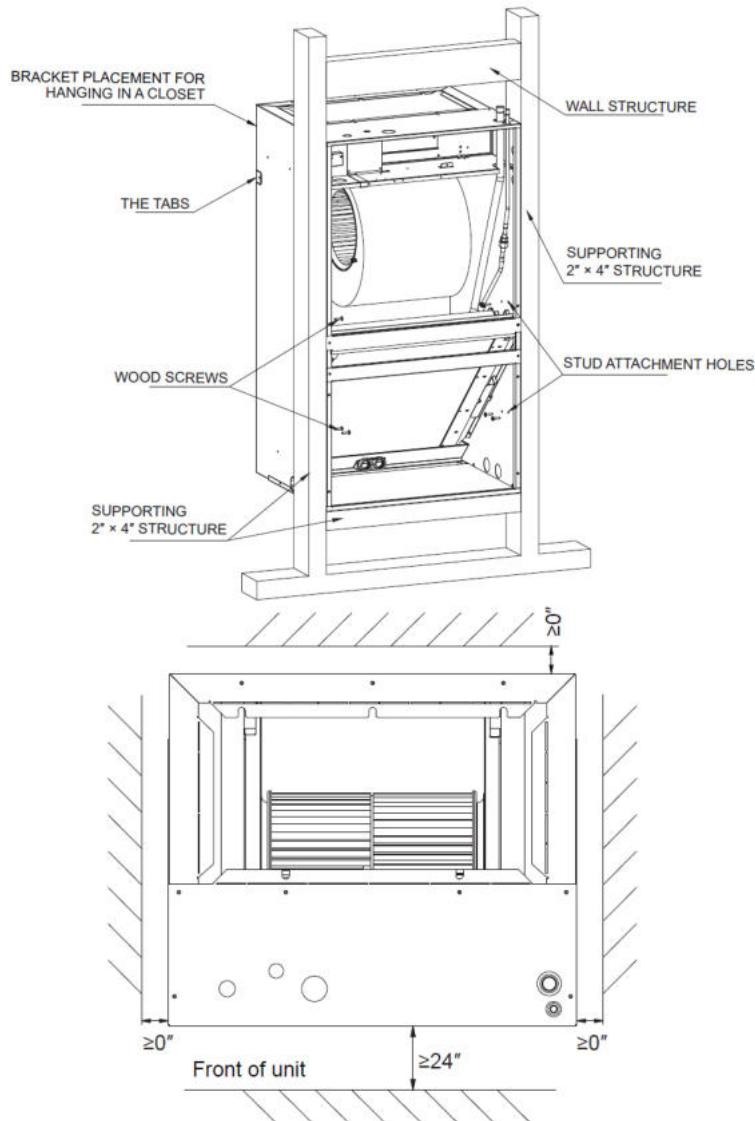

**FIGURE 4.1**
3. Lift the air handler above the wall mounting bracket and attach the unit to the installed bracket. Reference Figure 4.1.
4. Install the additional bottom plate for extra support for this type mounting (see Figure 4.1).